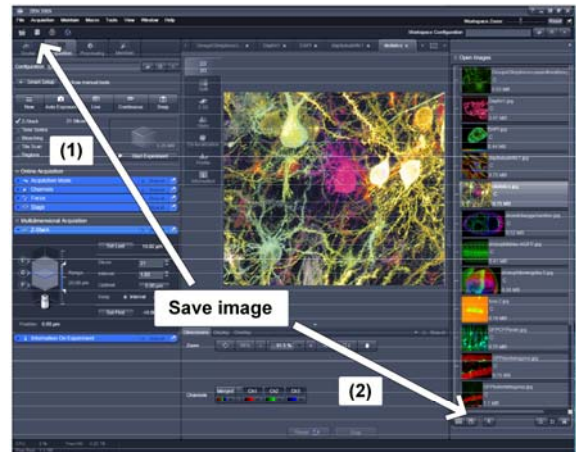

Fig. 27 Save Image buttons in ZEN
- To save your acquired or processed images, click on the **Save** or **Save As** button in **File** menu, or click the  button in the **Main Toolbar** (Fig. 27/1), or click on the  button at the bottom of the **File Handling Area** (Fig. 27/2)